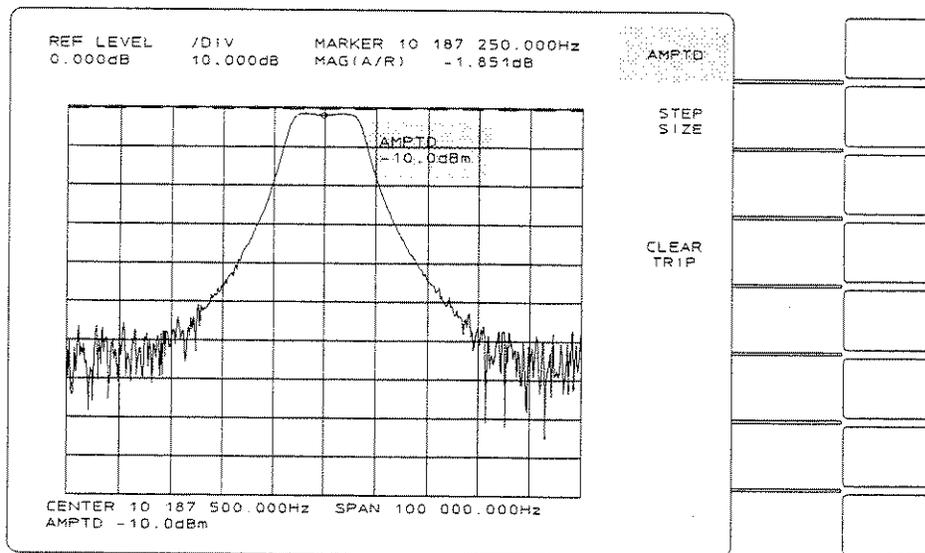

Figure 2-14. The Source Amplitude Menu
7. The noise level of figure 2-14 will now be reduced by increasing the source amplitude and decreasing the attenuation applied to input A. Press **[ AMPTD ]** in the SOURCE section.
The noise-reduced trace is shown in figure 2-15. Compare it with figure 2-14.